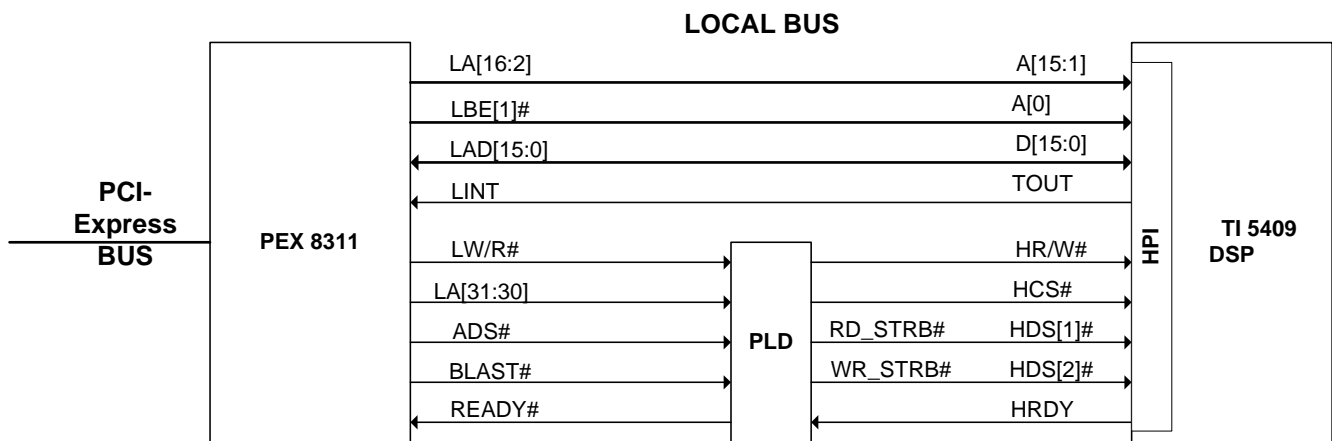

Figure 2. PLX PEX 8311 and TI 5409 Signal Connections
- Figure 2. PLX PEX 8311 and TI 5409 Signal Connections3
Some of the functions of the PLDs, in Figures 2 and 3, are to invert the LW/R# signal, to generate the HDS[2:1]#, HCS#, and READY# signals.
Figure 2 shows the signal connections between the PEX 8311 and TI 5409.